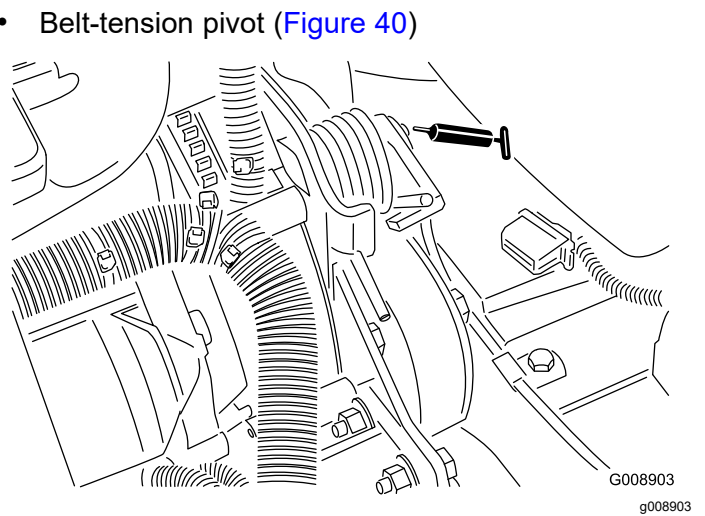

Figure 40
- Belt-tension pivot (Figure 40)